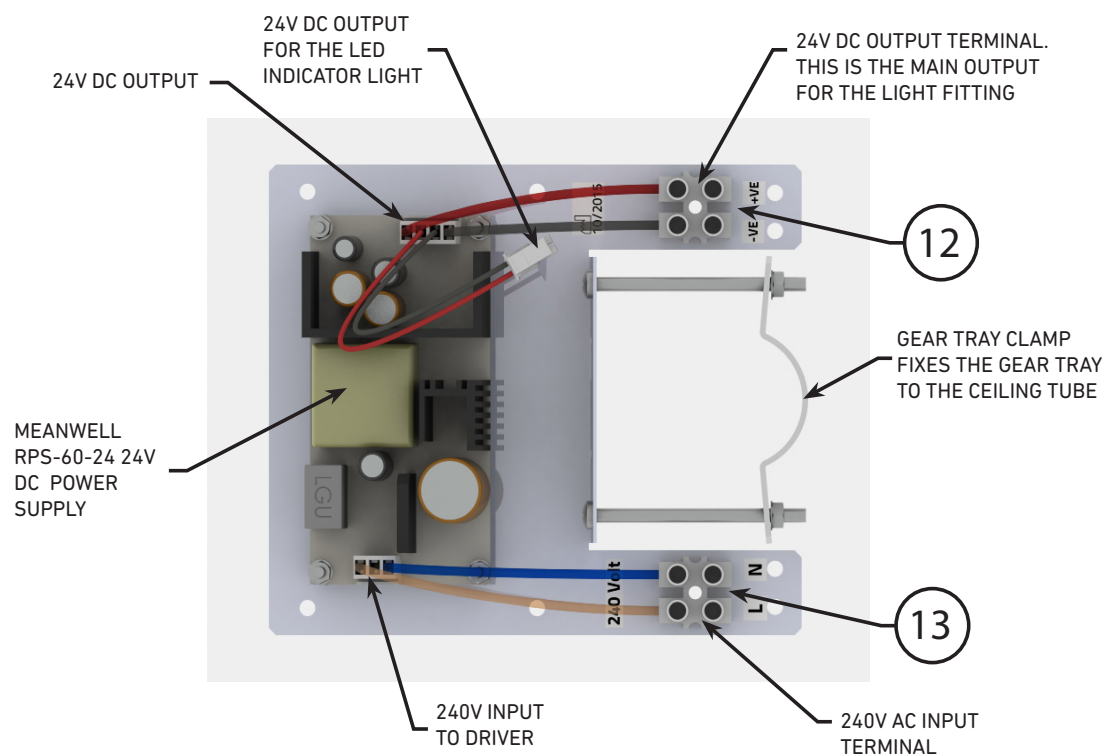

Fig. 11.0
12. Connect the 24V power feed, and earth for the light fitting into the terminal, shown in Fig. 11.0
13. Connect the 240V AC input, and earth into the terminal, as shown in Fig. 11.0.